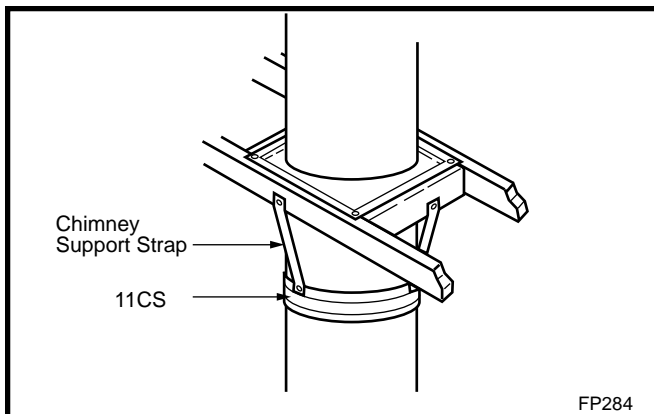

Fig. 7 Chimney support installation
Angled chimney runs require a support every six (6) feet in addition to the elbow straps. Chimney supports are used for this function. (Fig. 7)
If chimney supports are required, they are installed the same as elbows. Nail chimney support straps to adjacent structural framing, as shown in Figure 7, Page 7. Bend straps as necessary and make sure they are secure so they will support the weight of the chimney. A chimney support is 2½" long when installed. Consider this dimension when determining how many straight chimney sections are needed.